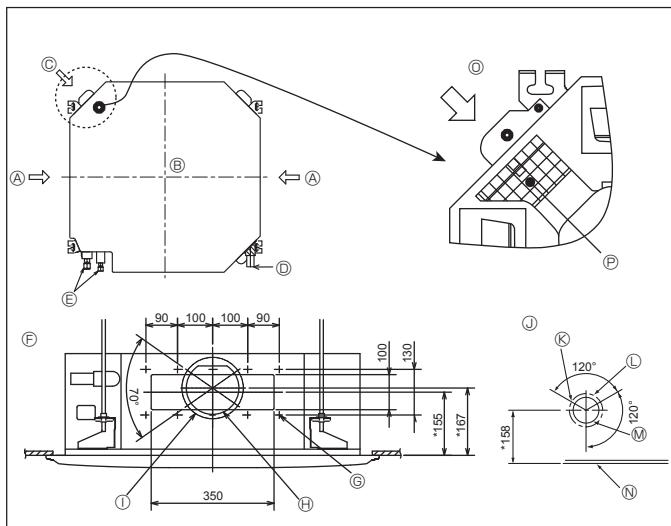

Fig. 3-4
3.4. Branch duct hole and fresh air intake hole (Fig. 3-4)
At the time of installation, use the duct holes (cut out) located at the positions shown in Fig 3-4, as and when required.